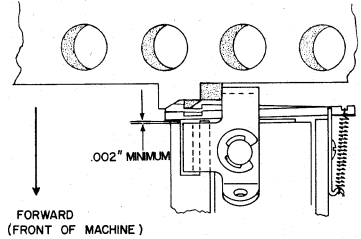

Figure 8
5. Loosen the screw that mounts the armature knock off bail plates to each magnet yoke and position the plates so there is a minimum of .002" clearance between the bail and a manually attracted armature (Figure 8). The clearance should be the same for the top and bottom armature in each magnet yoke. The clearance should be held as close to the .002" minimum as possible for maximum knock off action but the bails must not come within .005" clearance to the permutation bars so that they